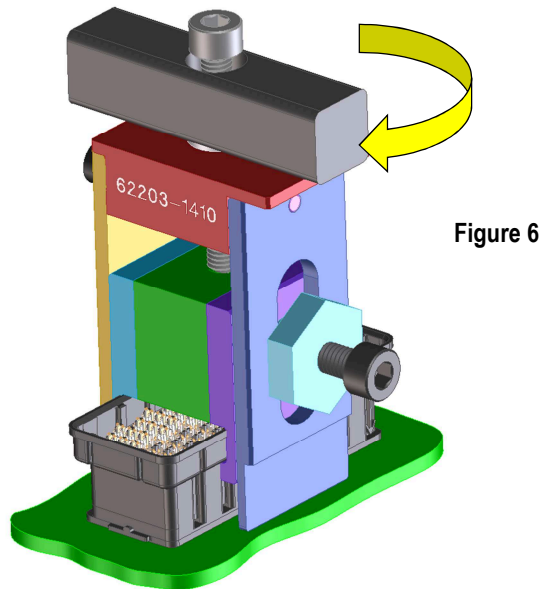

Figure 6
6. To remove the connector from the PCB, turn the T-Handle clockwise to raise the Lifting Jaws. See Figure 6.